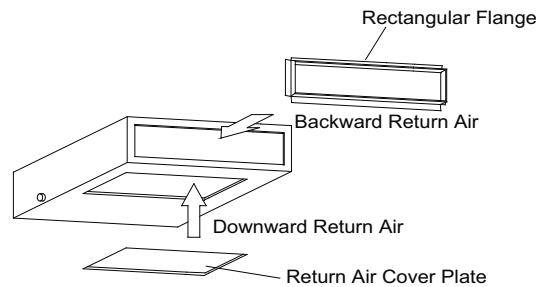

Fig. 34 - Return Air Duct
1. The default installation location of the rectangular flange is in the back and the return air cover plate in in the bottom as shown in Fig.34.